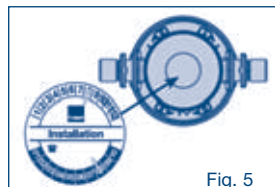

Fig. 5
6. Mark the date (month/year) of installation on the installation plate supplied and glue it to the filter head (see Fig. 5).